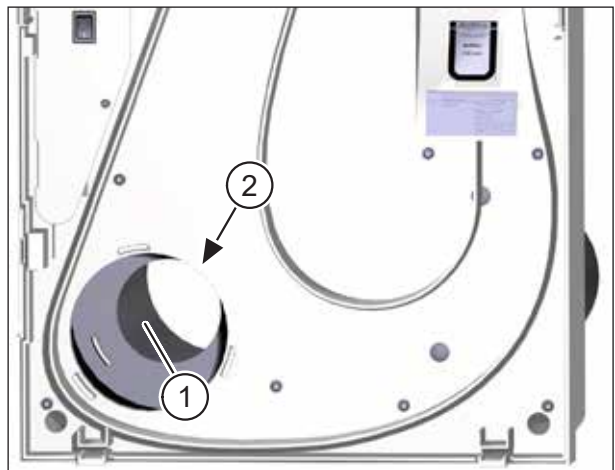

Fig. 8: Check outdoor air pipe for soiling and clean if necessary
- ▶ Check the outdoor air pipe (item 1 in Fig. 8) for soiling.
- ▶ When cleaning, be careful not to damage the optional temperature sensor (item 2 in Fig. 8).